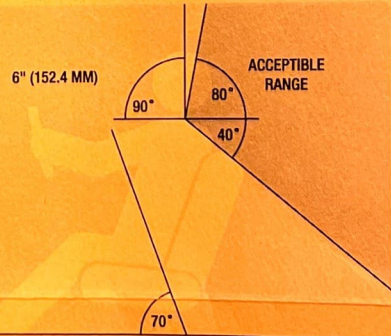

**FIGURE 1 - MAXIMUM AND MINIMUM PACING DISTANCE FOR SEAT BELT MOUNTING**
3. Space the attachment points 15" to 25" apart so that the lap belt forms a "U" shaped loop when in use. Never attach both ends of the same lap belt to the same anchorage or attachment point (See Figure 1).